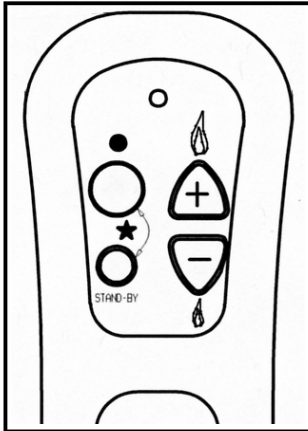

FIG. 1
4. Wait five (5) minutes to clear out any gas. Then smell for gas including near the floor. If you smell gas, STOP! Follow A in the safety information above. If you don't smell gas, proceed to step 5 or step 6.
5. If you are using the Remote Handset, simultaneously press and hold the ● and the ★ buttons on the Remote Handset (See Fig. 1) until an audible signal confirms the start sequence has begun; release buttons. Note: For best results point the remote handset directly at the IR sensor which is located under the fireplace.